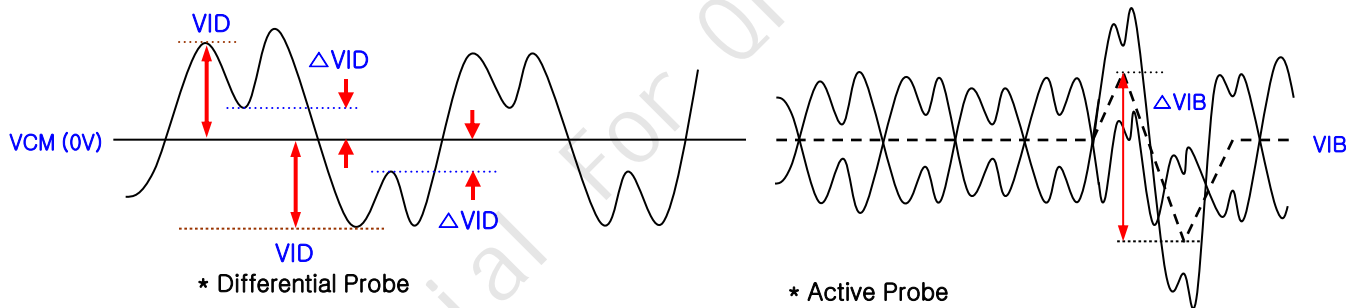

FIG.2 Description of VID, ΔVIB, ΔVID
5. In case of mini-LVDS signal spec, refer to Fig.2 for the more detail.